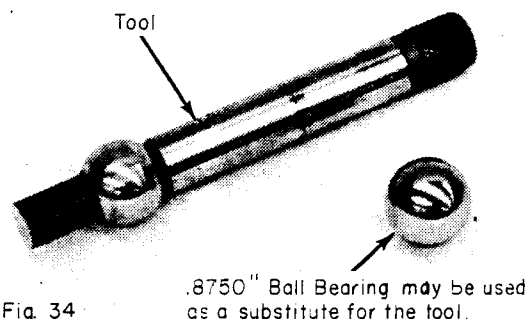

Fig. 34
If, however, you find that after cleaning and re-assembly the spindle ball is too tight and cannot be rotated freely within the spool body, you will have to again disassemble the parts and lap the ball seat of the lower pivot bearing (121) (Fig. 34). To do this, you have to have a tool which for all practical purposes is an identical size ball as the spindle ball (Fig. 34).